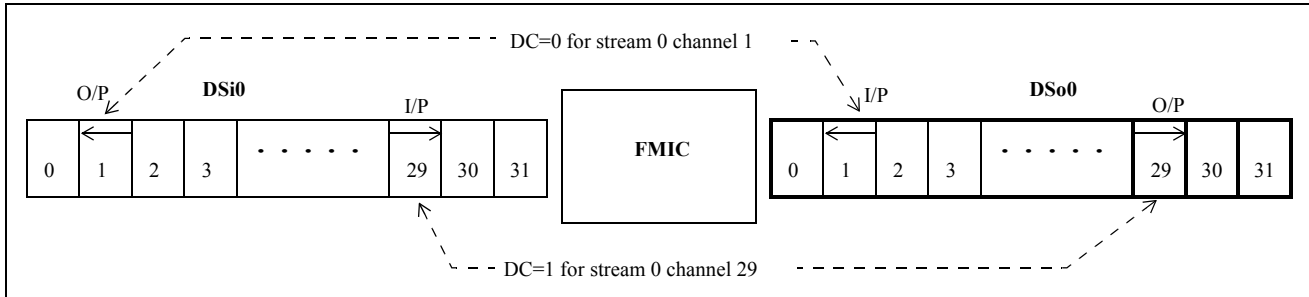

Figure 3 - Per-channel Direction Control
The direction control (DC) bit in connection memory high determines the direction of the associated DSi-DSo channel pair. If the DSi or DSo channel is programmed as an input, the corresponding DSo or DSi channel will automatically be configured as an output. Thus, there are always 256 MVIP input and 256 MVIP output channels or 256 full duplex MVIP channels on the MVIP bus. Figure 3 - "Per channel direction control" illustrates the use of DC